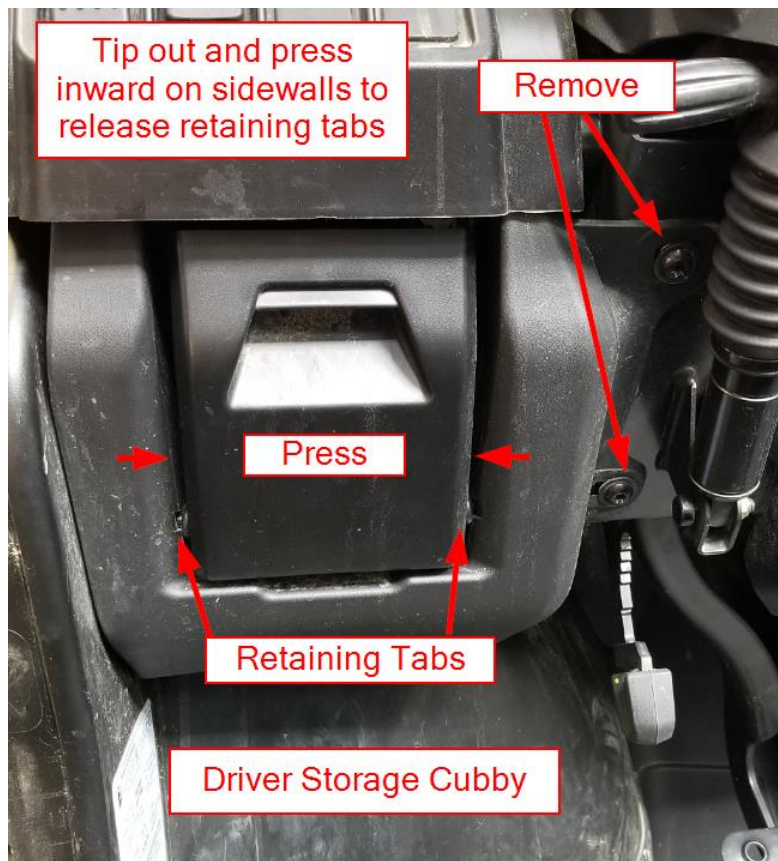

Figure 8
- i. Remove driver side tip out cubby and surrounding plastic as shown in Figure 8 and Figure 9